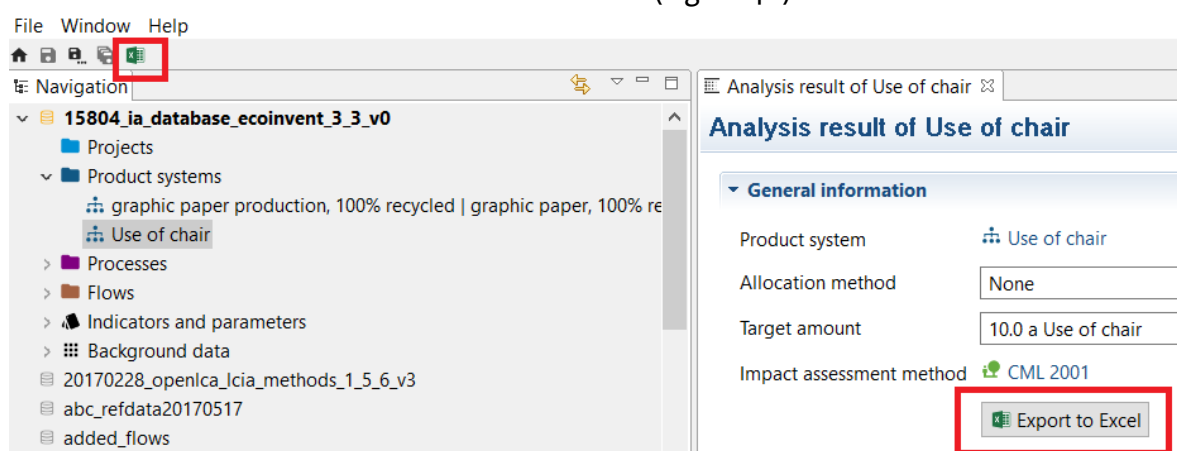

Figure 40: Exporting results as excel file
- To export quick results, analysis results, and Monte Carlo simulation results you can either click on the excel export icon in the top left-hand corner or select the "Export to Excel" button under the "General information" tab of the results editor (Figure 40).